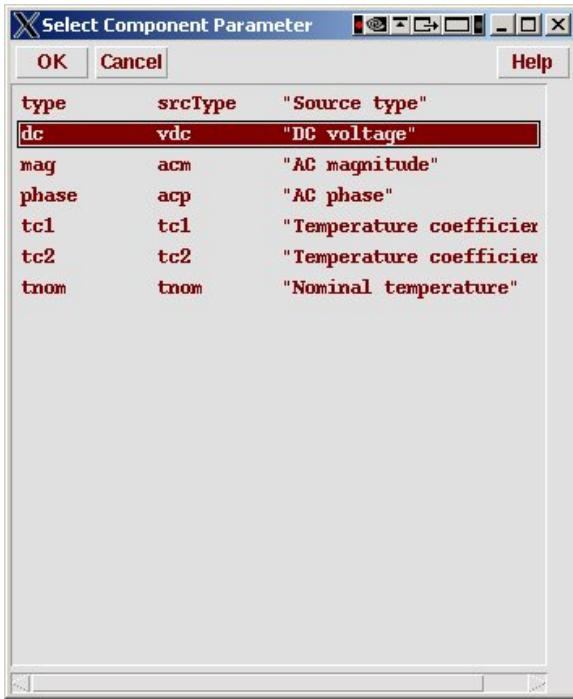
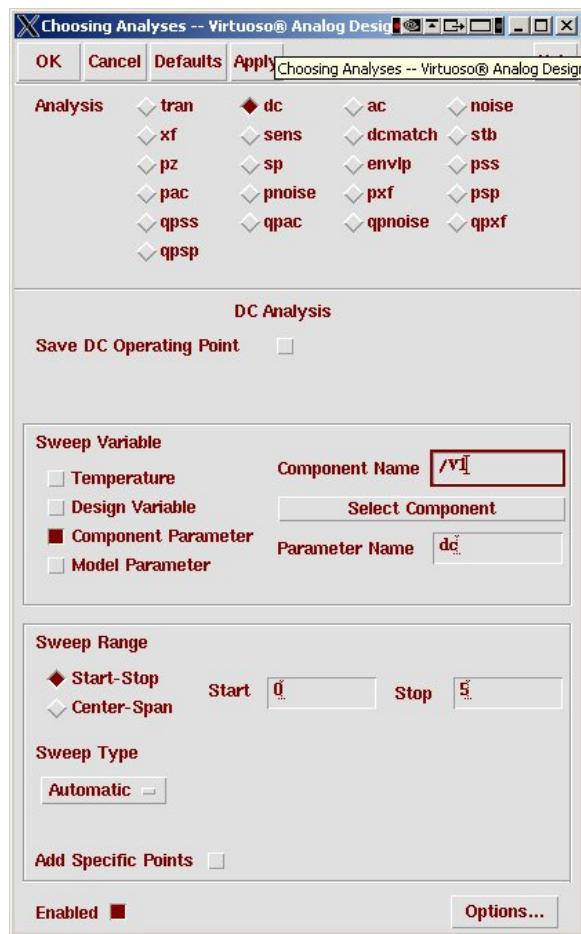

Figure 6.30: Component parameter selection dialog box for DC analysis
Figure 6.31: DC analysis dialog box
5. When you select (click on) the **vdc** connected to the transistor drain, you get another box (Figure 6.30) that asks you to select the component parameter that you want to sweep. We want to sweep the **dc voltage**. Click on that and then OK. You'll see that the component name (**/V1** in my circuit) and the parameter name (**dc**) have been added to the **Choosing Analysis** dialog box which now looks like that in Figure 6.31.